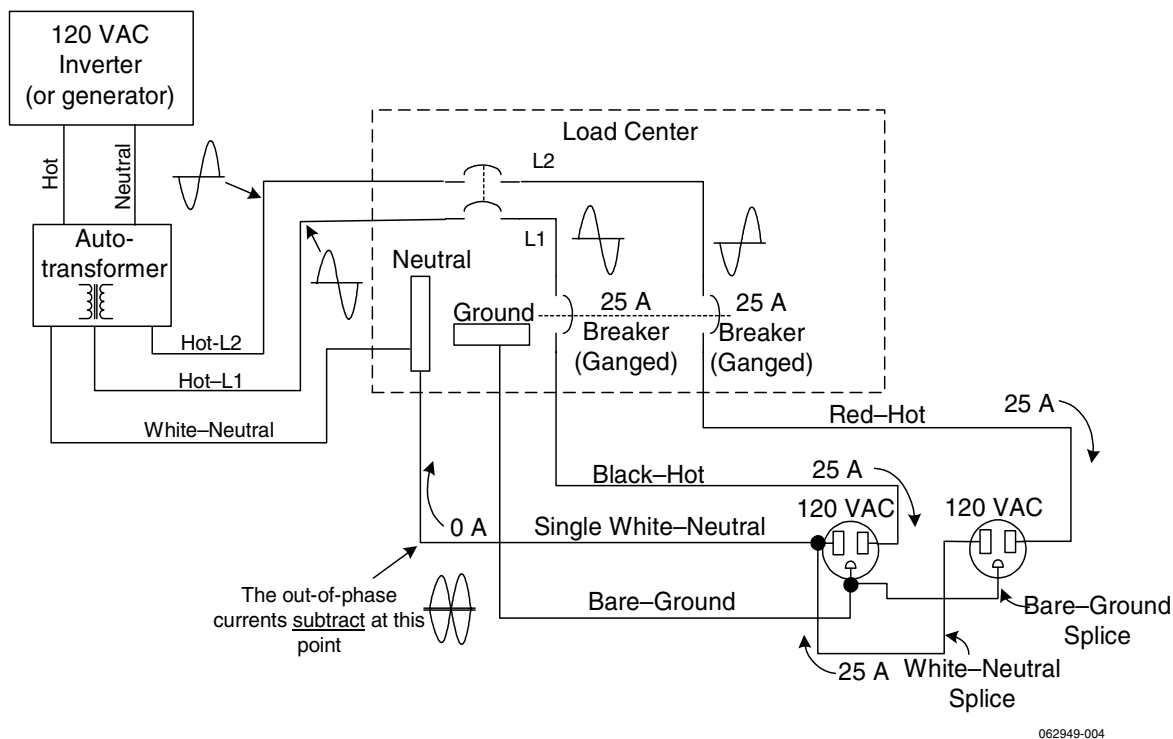

Figure 5
- Add a T240 Autotransformer to the output of the inverter to restore the split-phase configuration. This is the least expensive and easiest method to correct for multiwire branch circuit wiring. Refer to Figure 5. Using this method, half of the current is supplied to one leg of the circuit and half to the other in a split-phase arrangement (180° out-of-phase). This will restore the original functionality and safety to the multiwire branch circuit.